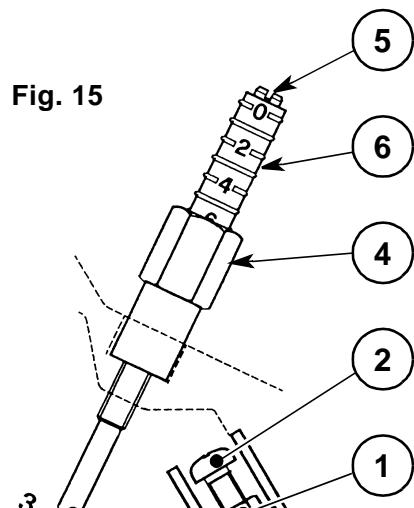

Fig. 15
4.5 PUMP PRESSURE AND AIR OUTPUT, (see fig. 15 and 16)
ADJUSTMENT OF AIR SHUTTER, (see fig. 15)